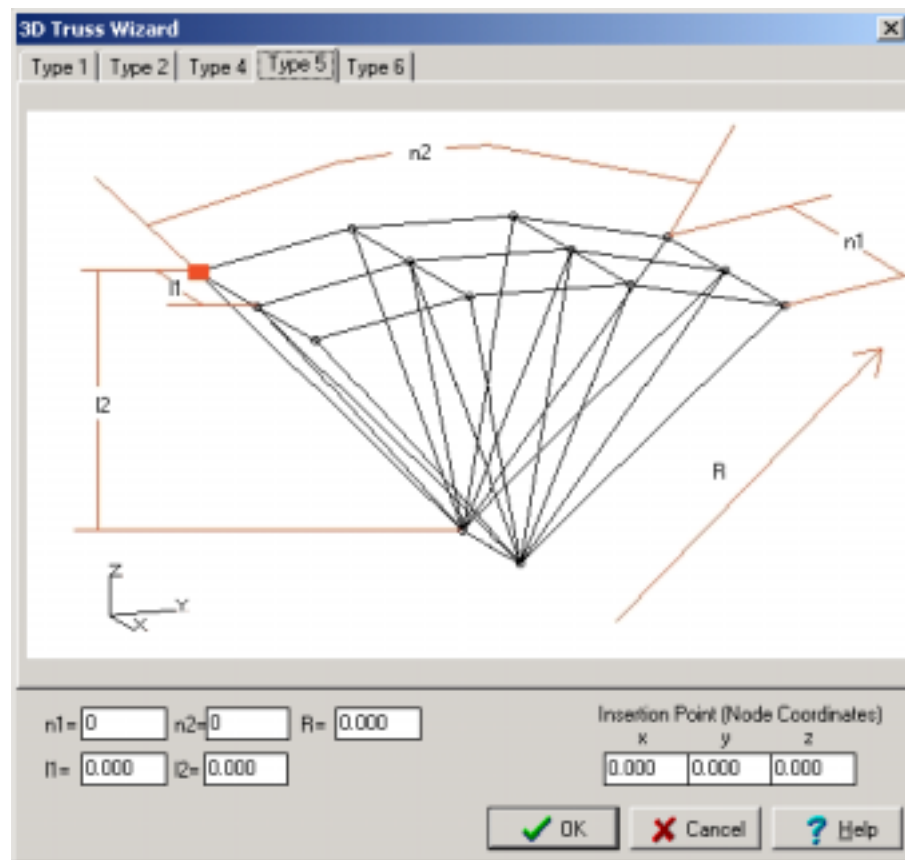

Figure 73 3D TRUSSES' WIZARD TYPE 5
This type of 3D truss is shown in figure 73.
1. While the dialogue box "3D TRUSS WIZARD" is open, click on the TYPE 5 label. The table shown in figure 73 will appear.